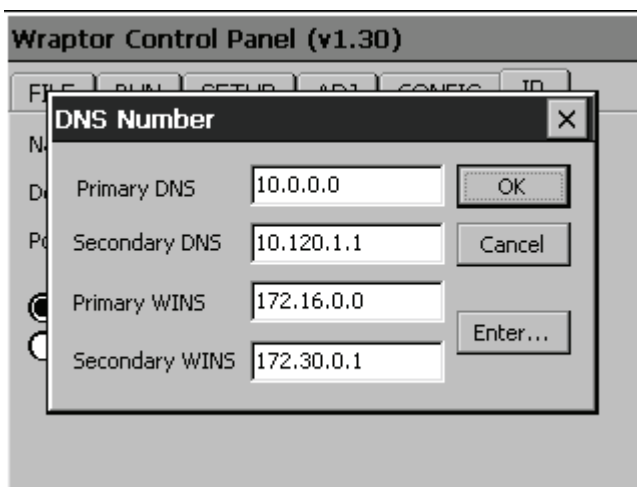

Figure 25. DNS/WINS Server Address Entry
- ◆ The DNS Number dialog (*Figure 25*) appears.